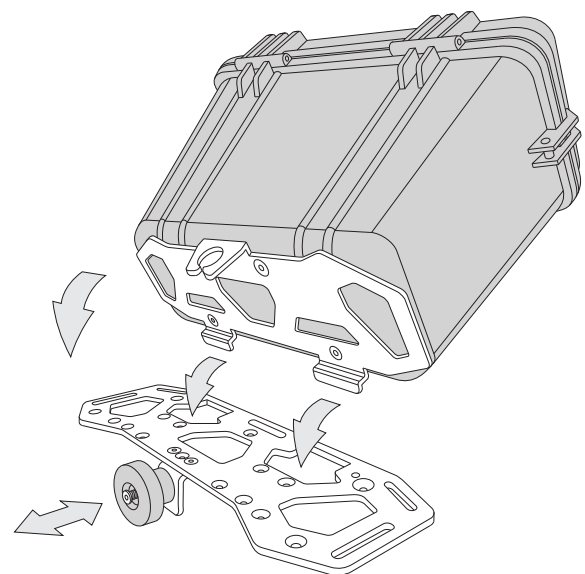

Figure 12. Secure Waterproof Case to Cargo Rack
4. Secure the Waterproof Case to the Cargo Rack using the Quick Release Mount as shown in **Figure 12**.